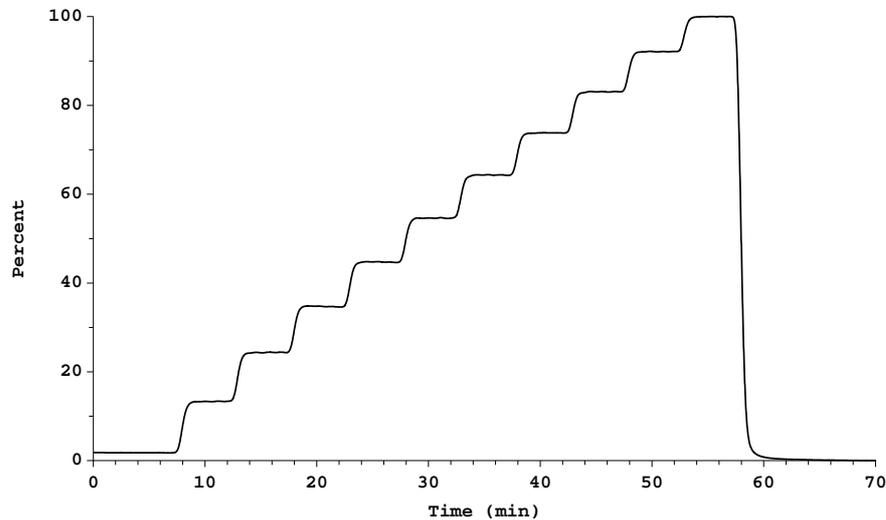

FIGURE 3-31. Test Report – Step Gradient
- h) Initiate the gradient and collect the absorbance data. A typical trace is shown in FIGURE 3-31.
- i) The maximum deviation from the theoretical composition is $\pm 2\%$ B (FIGURE 3-31 shows a typical step gradient trace).